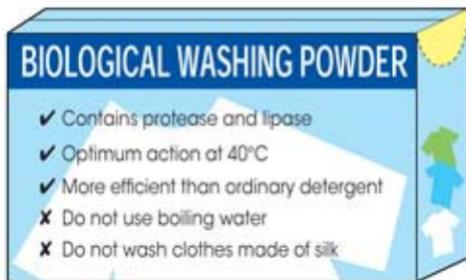

Figure 2
3. Digestive enzymes function as biological catalysts to change the rate of decomposition of complex food molecules into simpler molecules in the digestive system. What is the use of digestive enzymes other than aiding in the digestion of food? Figure 2 shows one application of biological catalysts in daily life.